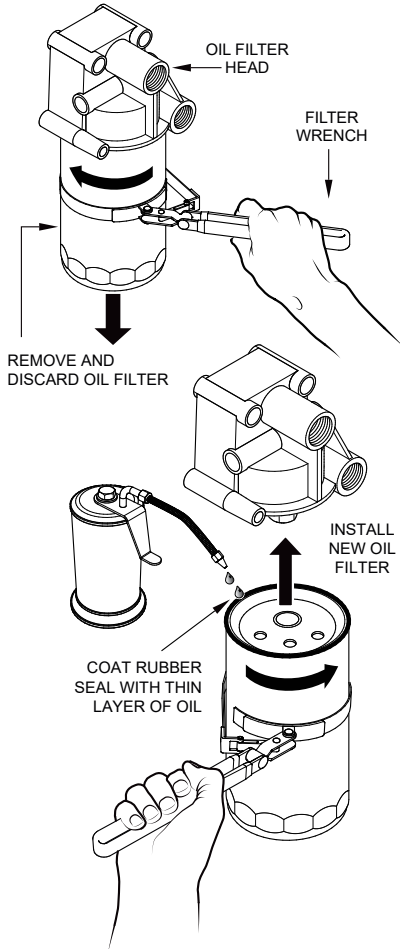

Figure 90. Oil Filter Removal
2. Using an oil filter wrench (Figure 90), remove the engine oil filter.
3. Coat the rubber seal (gasket) surface of the oil filter (Figure 90) with clean 15W-40 engine oil.